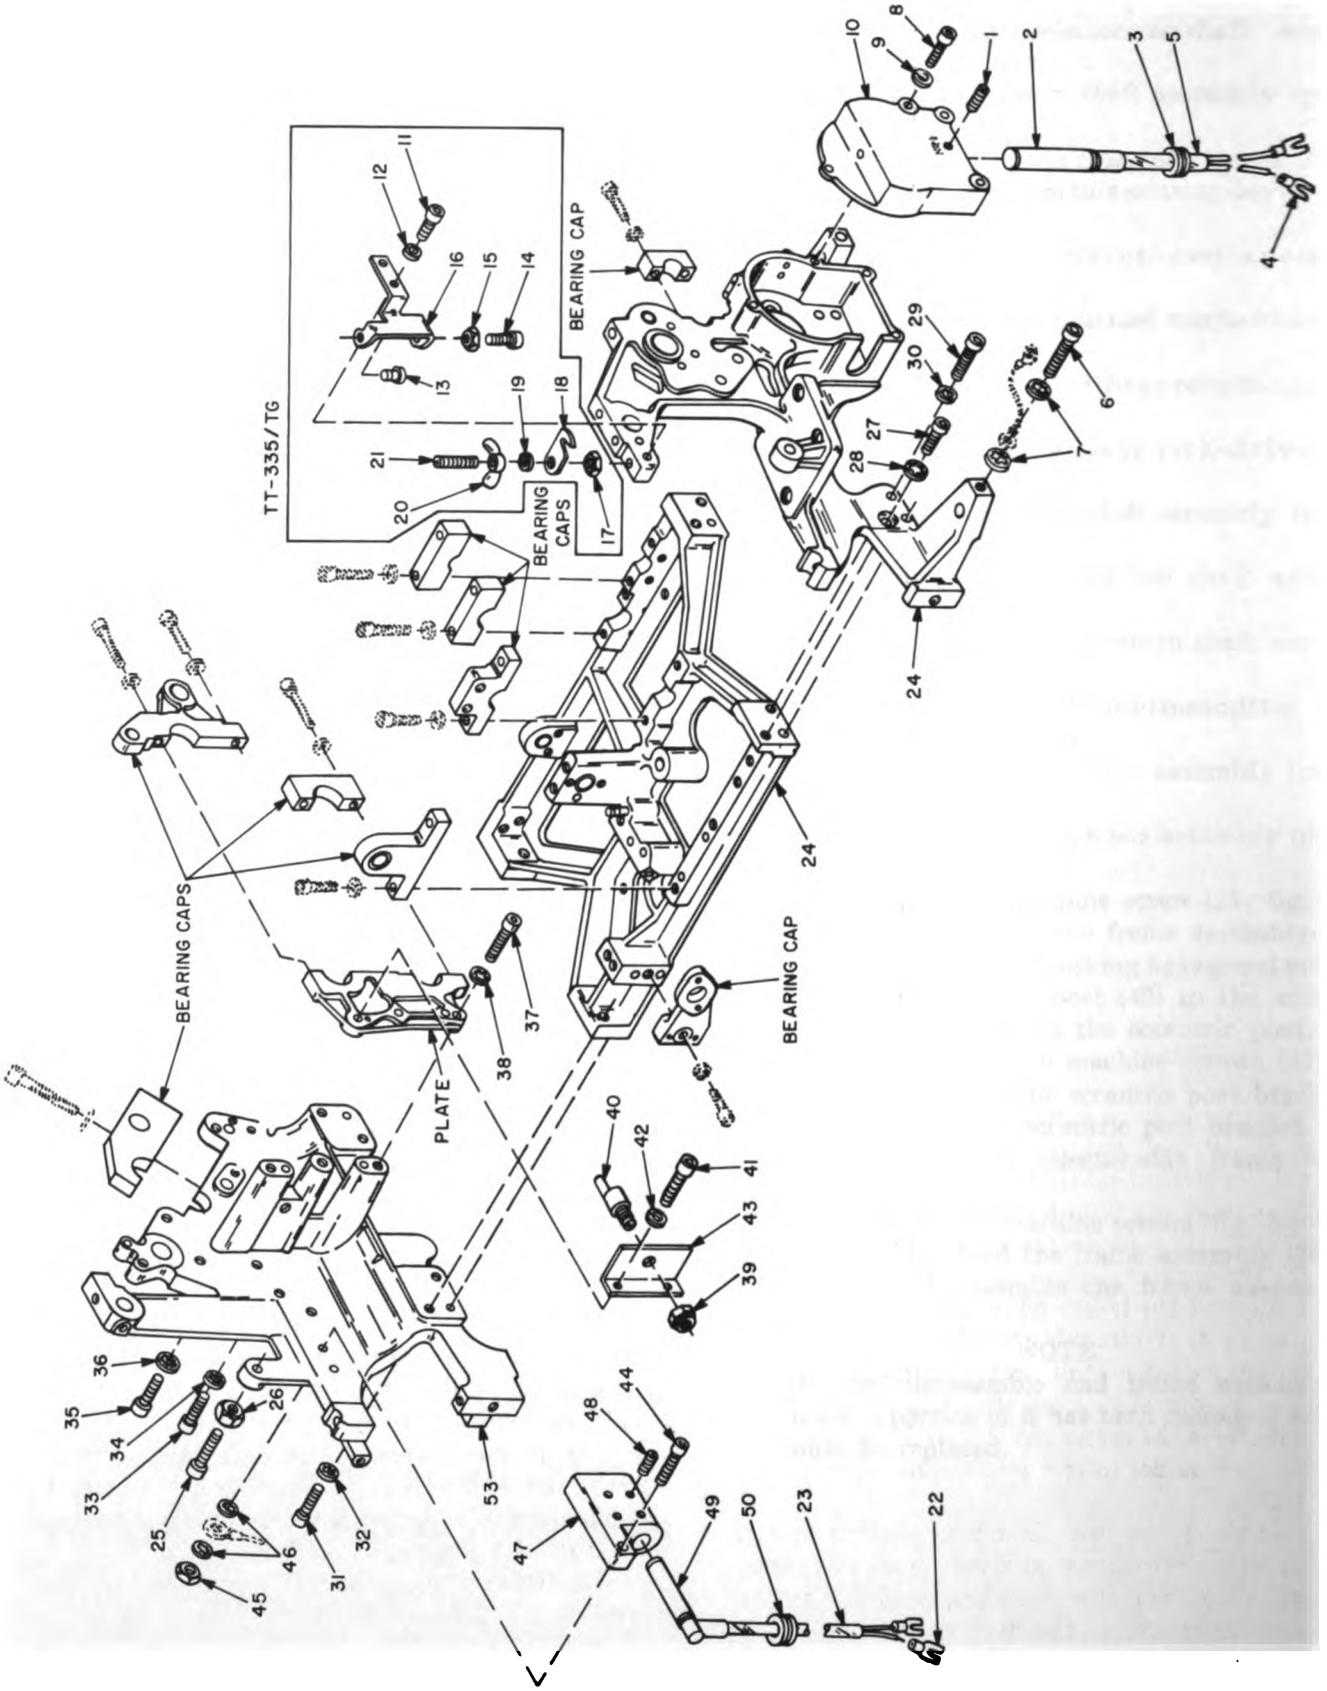

Figure 3-80. Teletypewriter frame assembly (TT-335/TG and TT-537/G), exploded view.
(fig. 3-80)
- (1) Remove the dust cover (para 3-22a).
- (2) Remove the paper shaft, paper-shaft bracket, and paper chute (para 3-23a).
- (3) Remove the assembled teletypewriter from the mounting base (para 3-25a).
- (4) Remove the teletypewriter motor (para 3-26a).
- (5) Remove the keyboard-transmitter (para 3-27a).
- (6) Remove the platen assembly (para 3-28a).
- (7) On TT-335/TG only, remove the two machine screws (11, fig. 3-80) and lockwashers that hold the platen bracket (16) to the frame assembly. Remove the bumper (13), machine screw (14), and hexagonal nut from the platen bracket.
- (8) On TT-335/TG only, loosen the hexagonal nut (17) and remove the assembled items from the frame assembly. Remove the hexagonal nut, platen lock, lockwasher, and wingnut (20) from the set-screw.
- (9) Remove the carriage assembly (para 3-29a).
- (10) Remove the line terminal board (para 3-30a).
- (11) Remove the instrument panel (para 3-32a).
- (12) Remove the selector-magnet assembly (para 3-58a).
- (13) Remove the rangefinder (para 3-59a).
- (14) Remove the selector levers and Y-levers (para 3-62a).
- (15) Remove the transfer-lever-shaft assembly (para 3-63a).
- (16) Remove the print-bail-blade shaft assembly (para 3-64a).
- (17) Remove the signal-bell assembly (para 3-65a).
- (26) Remove the manual-carriage-return mechanism (para 3-83a).
- (27) Remove the carriage-feed mechanism (para 3-85a).
- (28) Remove the carriage-return-operating mechanism (para 3-86a).
- (29) Remove the carriage-rack-drive-shaft assembly (para 3-89a).
- (30) Remove the margin-bell assembly (para 3-90a).
- (31) Remove the carriage-feed shaft assembly (para 3-92a).
- (32) Remove the carriage-return shaft assembly (para 3-94a).
- (33) Remove the keyboard-transmitter drive-shaft assembly (para 3-96a).
- (34) Remove the motor-stop assembly (para 3-99a).
- (35) Remove the junction box assembly (para 3-104a).
- (36) Remove the machine screw (25, fig. 3-80) and hexagonal nut from the frame assembly.
- (37) Remove the self-locking hexagonal nut (39) that holds the eccentric post (40) to the eccentric post bracket (43); remove the eccentric post.